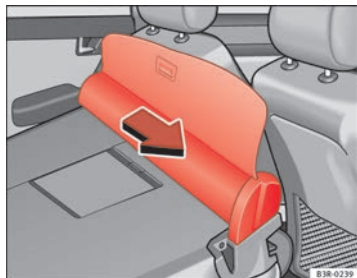

Fig. 122 Removing luggage compartment cover / partition grille
- Pull the partition grille in the direction indicated ⇒ fig. 122 and lift it out of the retaining rails.